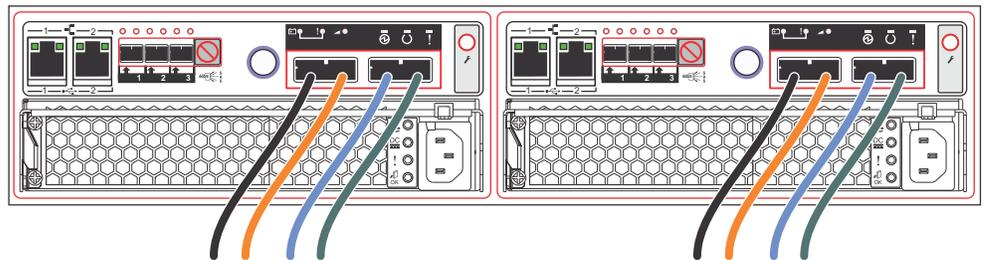

Figure 20. Example configuration with four Fibre Channel cables per canister
2. If you want to connect additional Fibre Channel cables, make sure to connect the same number of cables to each canister. Figure 20 shows an example configuration with four Fibre Channel cables connected to each canister.